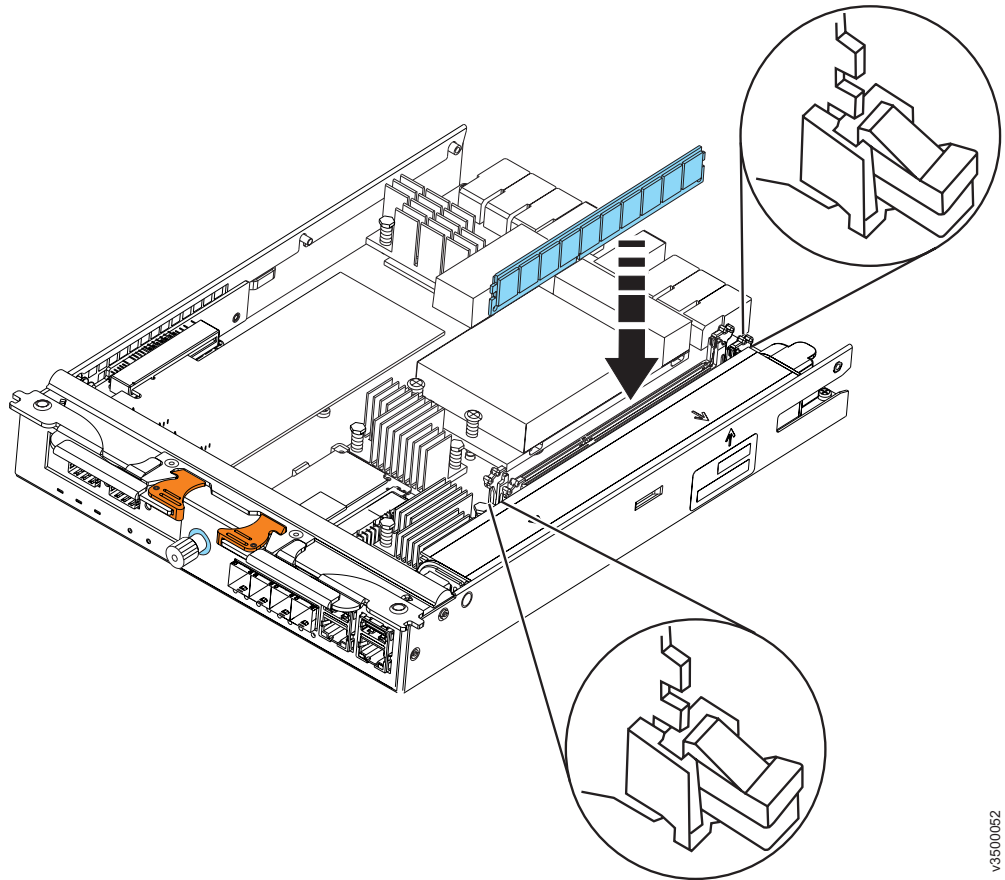

Figure 21. Installing memory module option
1. Open the retaining clip on each end of the memory module connector as shown in Figure 21.
5. Insert the memory module into the connector by aligning the edges of the module with the slots at the ends of the connector (see Figure 21).